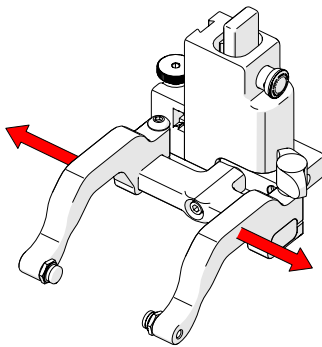

Fig. 50 - Remove probe holder arms
1. Loosen the arm clamp screw and the probe holder adjustment knob allowing removal of the probe holder arms (Fig. 50).